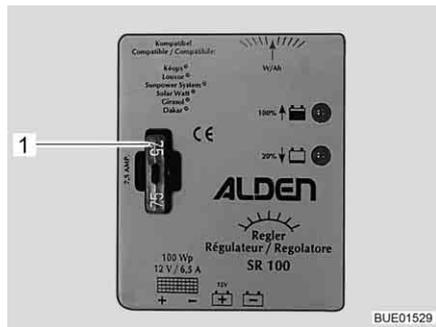

Fig. 117 Solar charge regulator fuse 100 W
- Replace flat fuse 5 A/light brown (Fig. 117,1).